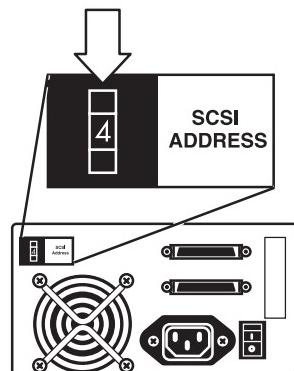

Figure 5: Setting the SCSI ID
1. Set the standalone UDO drive's SCSI ID (see Figure 5).